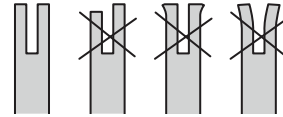

Fig. 39
5. Check the guide bar 'rail' for wear: Hold a ruler (straight edge) against the side of the guide bar and 'cutter side plates'. If there is a gap between the ruler and guide bar the guide bar 'rail' is normal. If there is no gap (ruler flush against the side of the guide bar) the guide bar 'rail' is worn and needs to be replaced with a new one of the same type (Fig. 39).
6. Turn the guide bar 180° to allow even wear, thereby extending the life span of the guide bar (9).
8. Refit the saw chain (8) and the guide bar (9) as described under "Assembly".